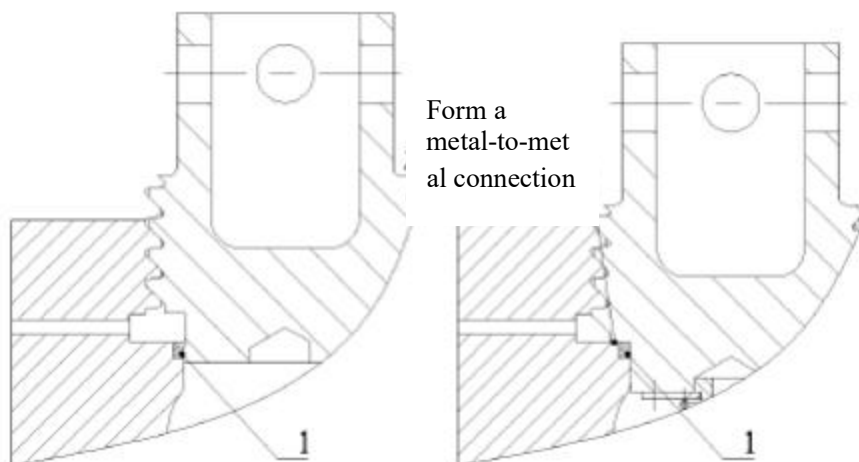

Fig. 27 Bonnet Repair
When repairing erosive (punctured) of bonnet hole, the most important thing is to keep the plane of the valve bonnet seat completely flat and at the angle of 90 ° with the axis of the thread when turning or grinding, as shown in Fig. 27. Valve bonnet retainer ① mounted in the sink hole at the top of the valve bonnet hole form a metal-to-metal connection. Obviously, high points formed on the valve bonnet during any welding or low points formed due to over-grinding on the welding point will form clearance between the bottom of valve bonnet and the plane of hydraulic cylinder, obstructing ring will be extruded or punctured under pressure. High or low points will also form a "tilting" on the valve bonnet, since the two thread axes are not perpendicular, its consequence is to lead to serious damage to screw thread.